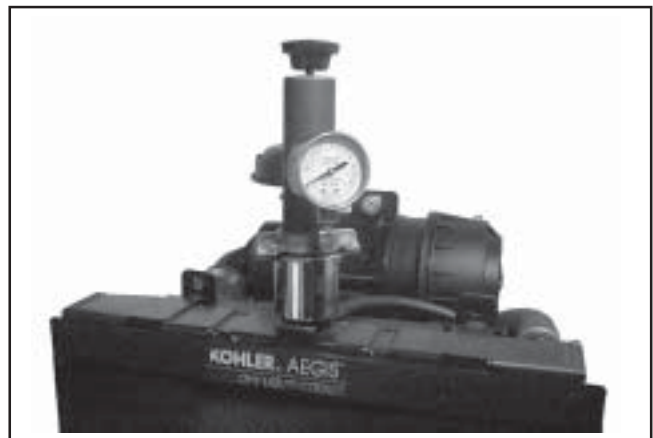

Figure 7-16. Adapter and Tester Installed.
4. Install and lock the system adapter and tester onto the neck of the cooling system. Pressurize the tester to 14-15 psi. See Figure 7-16.